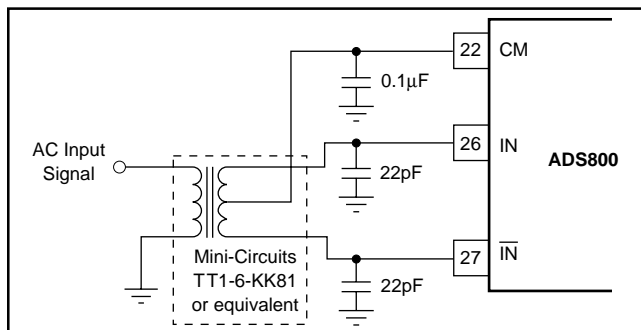

FIGURE 5. AC-Coupled Single-Ended to Differential Drive Circuit Using a Transformer.
The ADS800 has a differential input with a common-mode of +2.25V. For AC-coupled applications, the simplest way to create this differential input is to drive the primary winding of a transformer with a single-ended input. A differential output is created on the secondary if the center tap is tied to the common-mode voltage of +2.25V, as per Figure 5. This transformer-coupled input arrangement provides good high-frequency AC performance. It is important to select a transformer that gives low distortion and does not exhibit core saturation at full-scale voltage levels. Since the transformer does not appreciably load the ladder, there is no need to buffer the Common-Mode (CM) output in this instance. In general, it is advisable to keep the current draw from the CM output pin below 0.5mA to avoid nonlinearity in the internal reference ladder. A FET input operational amplifier such as the OPA130 can provide a buffered reference for driving external circuitry. The analog IN and \bar{IN} inputs should be bypassed with 22pF capacitors to minimize track-and-hold glitches and to improve high input frequency performance.